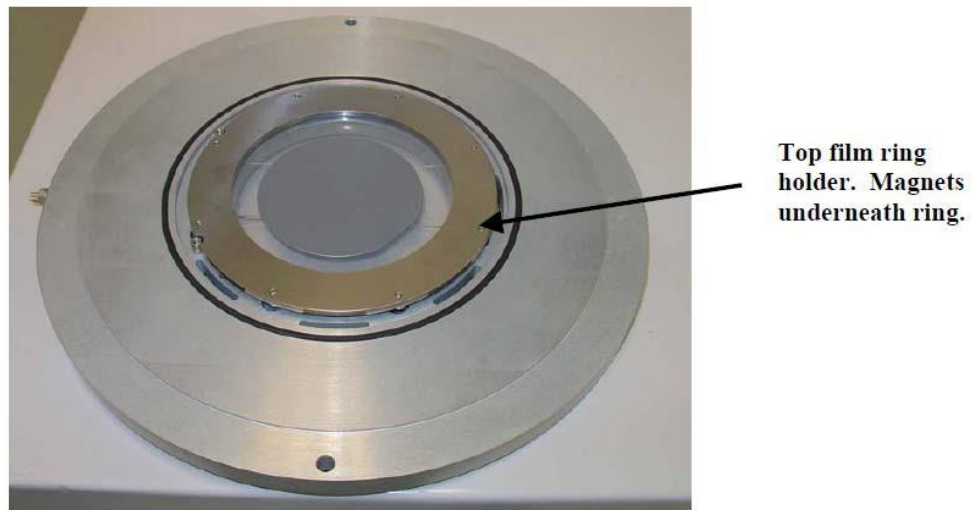
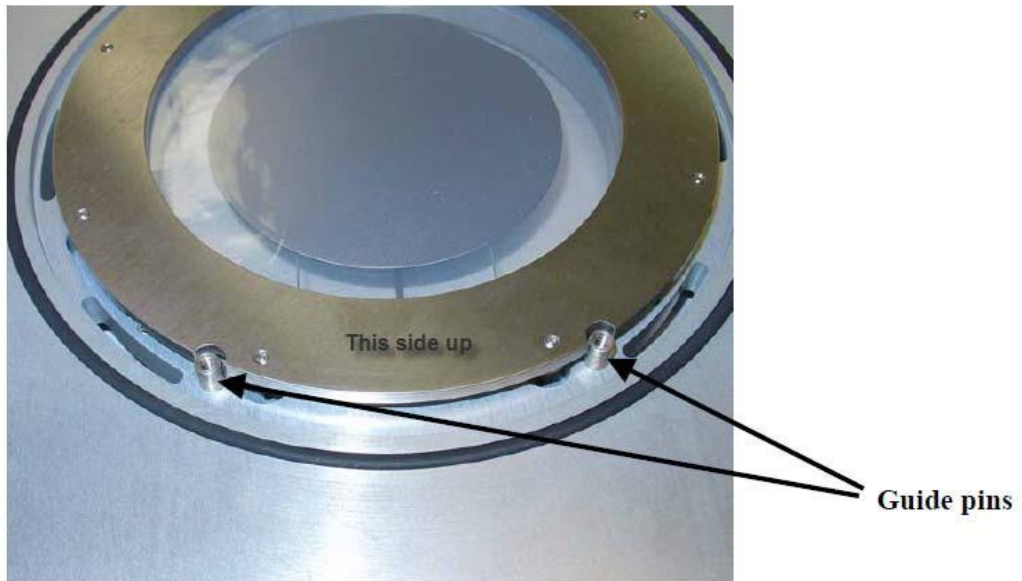

Figure 4-7 A larger diameter thin film is placed on the wafer holder.
Figure 4-8 A larger diameter thin film is placed on the wafer holder.
- i Place the Top Film Ring Holder onto the wafer holder, see figure 4-7. Align the cut out notches on the holder with the guide pins on the wafer chuck, see figure 4-8. The magnet side of the holder faces down, you should be able to read **“This side up”** (see figure 4-8), if you do not, **STOP**. Change the top film holder to make it correct.